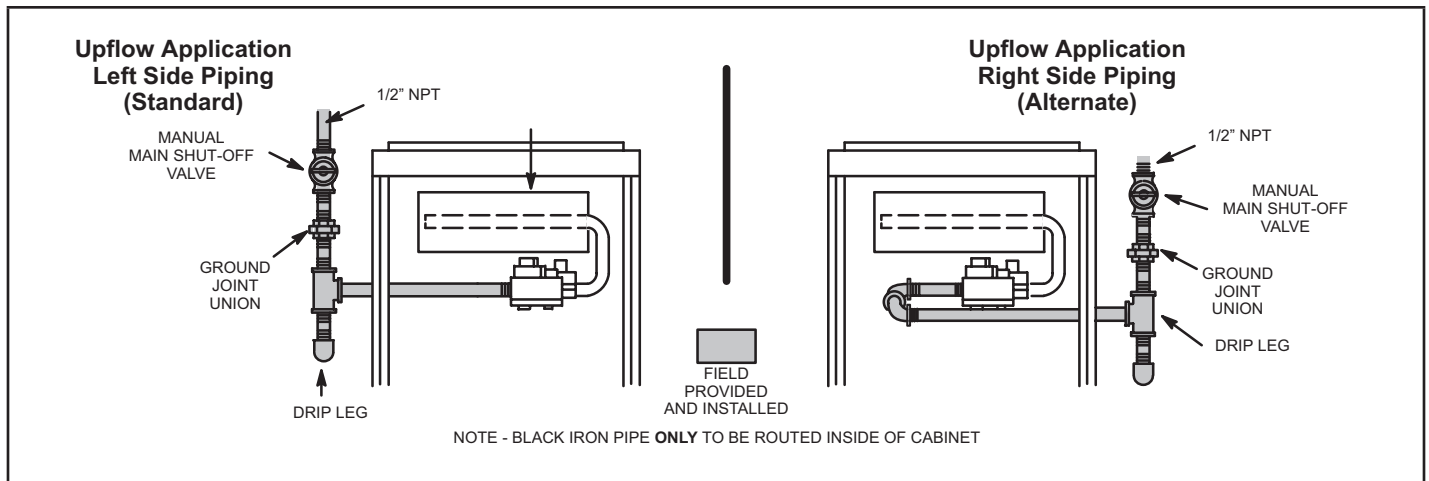
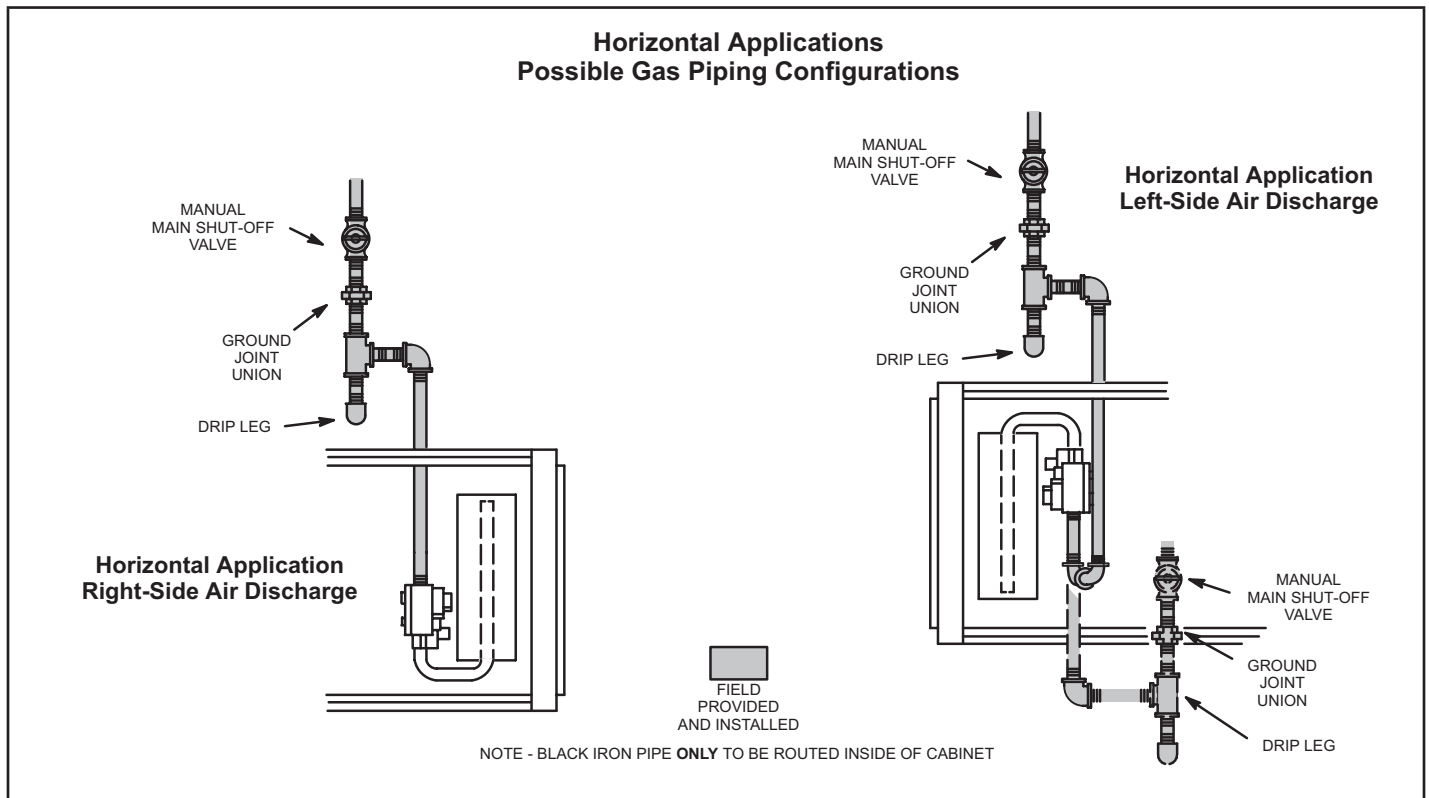

Figure 56
Figure 57
- 1 - Gas piping may be routed into the unit through either the left- or right-hand side. Supply piping enters into the gas valve from the side of the valve as shown in Figure 56. Connect the gas supply piping into the gas valve. The maximum torque is 800 in lbs and minimum torque is 350 in lbs when attaching the gas piping to the gas valve.
- 3 - Gas piping must not run in or through air ducts, clothes chutes, chimneys or gas vents, dumb waiters or elevator shafts. Center gas line through piping hole. Gas line should not touch side of unit. See Figure 56 and Figure 57.